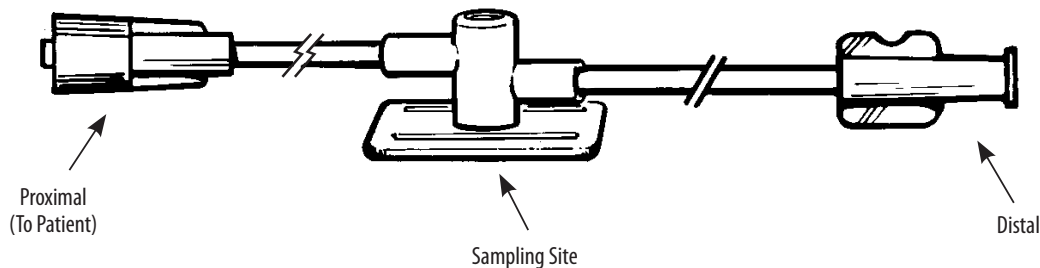

Figure 1
8. Securely connect the proximal end of the kit with the male luer-lock connector to the pre-filled catheter (Figure 1).